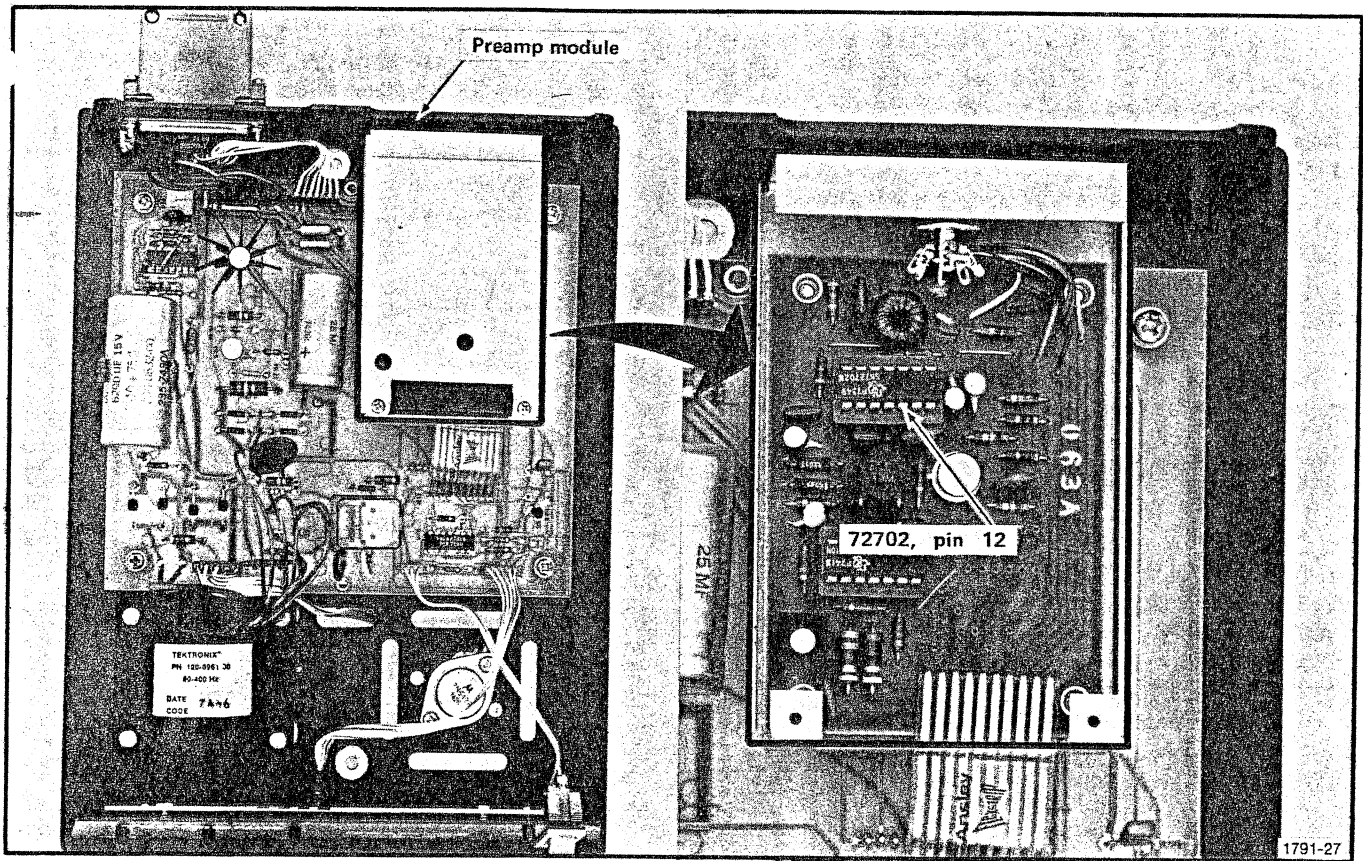

Fig. 4-9. Preamp test point location.
7. Attach an oscilloscope probe to pin 12 of the 72702 IC within the preamp (Fig. 4-9). Set the oscilloscope to